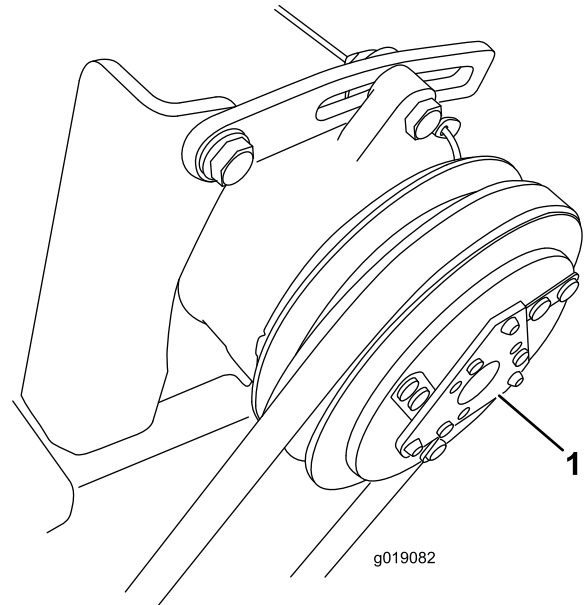

Figure 30
3. At the back of the machine, listen for the compressor clutch (Figure 30) engaging and disengaging (clicking).